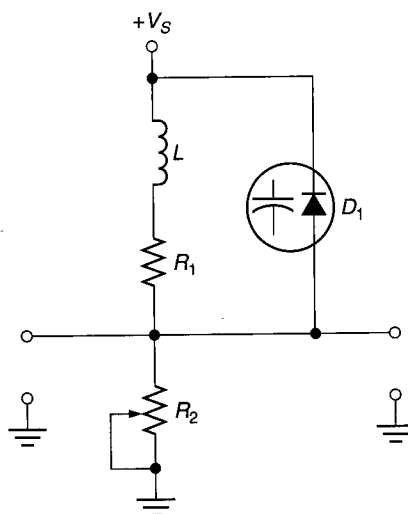

FIGURE 5.5  $LC$  tank circuit.
Varactors are used almost exclusively in *tuned circuits*, which are discussed in detail in Chapter 17. A tuned  $LC$  circuit that contains a varactor is shown in Figure 5.5. Note that the capacitance of the varactor is in *parallel* with the inductor. Thus, the varactor and the inductor form a *parallel LC circuit*, or *LC tank circuit*.
The  $LC$  tank circuit shown in Figure 5.5 has a 1 mH inductor. The varactor has the following specifications:  $C_i = 100$  pF when  $V_R = 5$  V, and  $C_R = 2.5$  for  $V_R = 5$  to 10 V. Determine the resonant frequency for the circuit at  $V_R = 5$  V and  $V_R = 10$  V.
A circuit like the one shown in Figure 5.5 has a 3.3 mH inductor and a varactor with the following specifications:  $C_i = 51$  pF at  $V_R = 4$  V and  $C_R = 1.8$  for  $V_R = 4$  to 10 V. Determine the value of  $f_r$  for  $V_R = 4$  V and  $V_R = 10$  V.
The diode in Figure 5.5 is replaced with one that has ratings of  $C_i = 100$  pF when  $V_R = 5$  V and  $C_R = 1.02$  for  $V_R = 5$  to 10 V. Determine the frequency range of the circuit for  $V_R = 5$  to 10 V.
8. Explain the operation of the circuit shown in Figure 5.5.